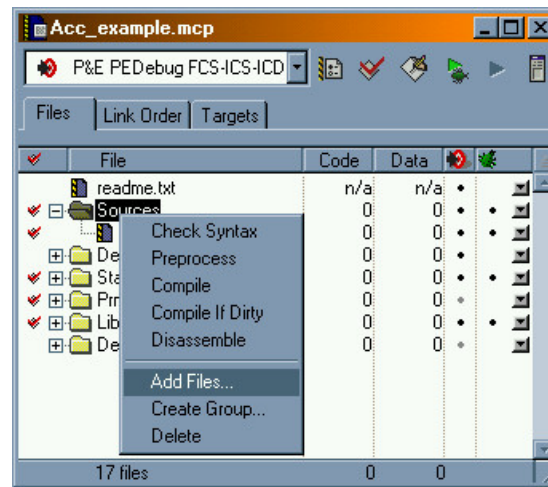

Figure 1-17. New Project Window – Add Files
8. The project window is displayed. See Figure 1-17.